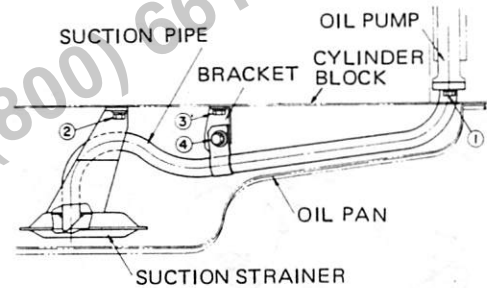

Fig. 3-4-31 Suction strainer
- 1) After checking the suction pipe and strainer for damage and cracks, temporarily tighten the bolts 1 - 4 as shown in Fig. 3-4-31.